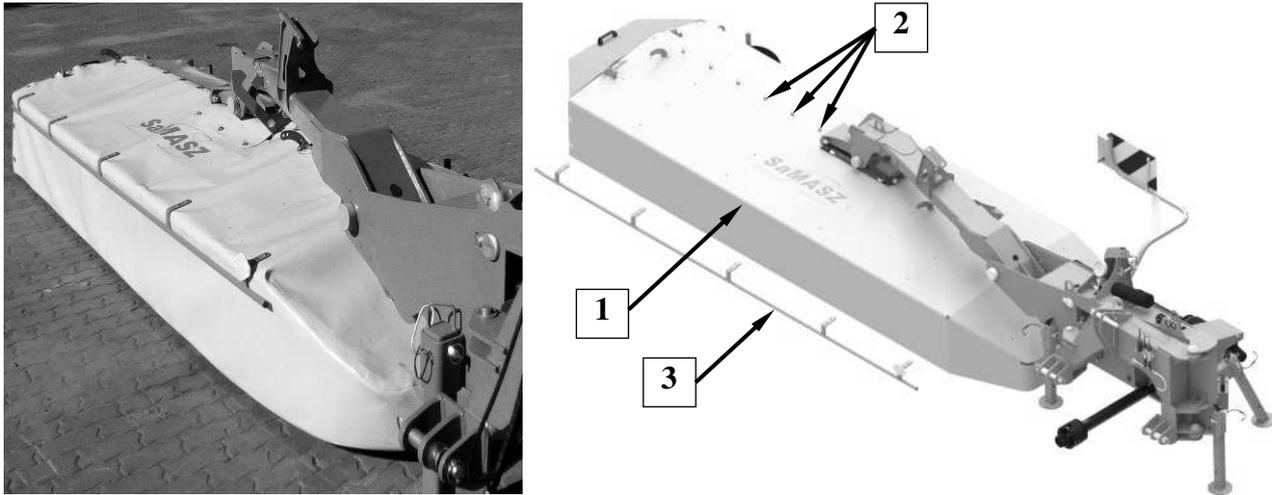

Fig. 7. Mounting safety curtain on mower
For storage, the SaMASZ manufactured mowers have standard safety curtains (1) to be mounted on user's own. In order to mount the curtain properly put it on mower and secure using catches (2) and with front guard (3) (**Fig. 7**). Front guard (3) should be fixed so that it holds the safety curtain (1). Examine condition of guards and its mounting on regular basis.